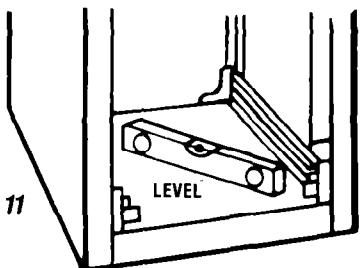

FIGURE 11
10. Stand compactor upright. Level the compactor by adjusting the four leveling screws. Level unit left to right and front to back. See Figure 11.